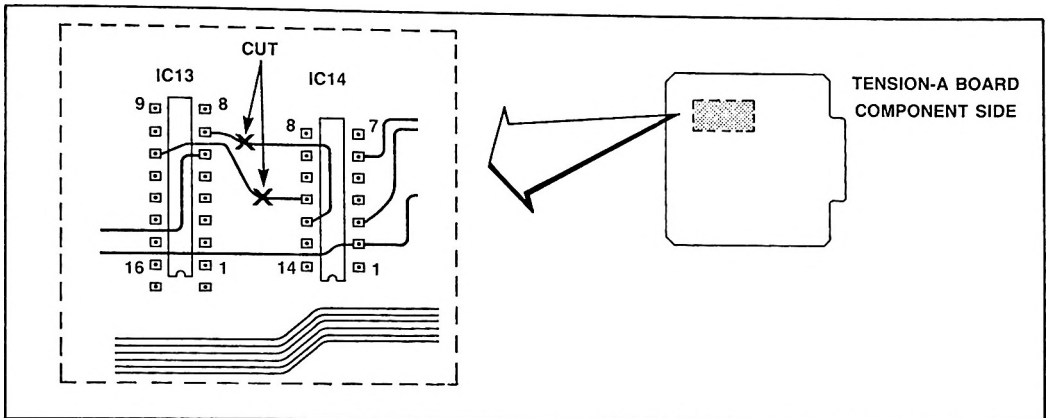

Figure 3
2. On component side, cut 2 traces as shown in Figure 3.